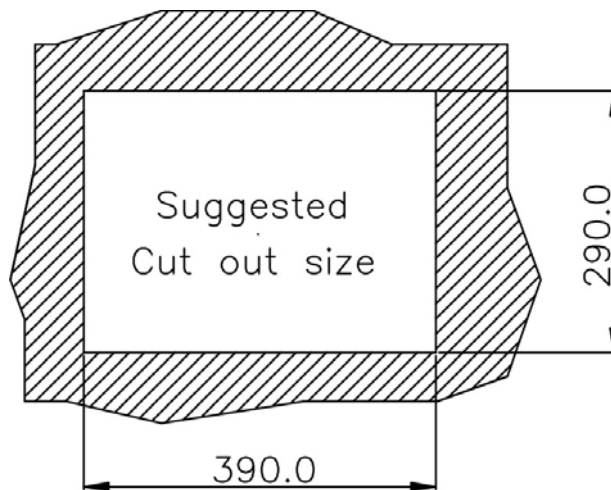

Figure 3-13: Suggested Panel Cut Out Size for PPC-5152-D525-E (Unit: mm)
- Step 2:** Cut out a section from the panel that corresponds to the dimensions of the flat panel PC chassis. The panel section that is cut out must be smaller than the size of the aluminum frame that surrounds the TFT LCD panel but just large enough for the chassis to fit through. Refer to **Figure 3-13** for the suggested cut out size.